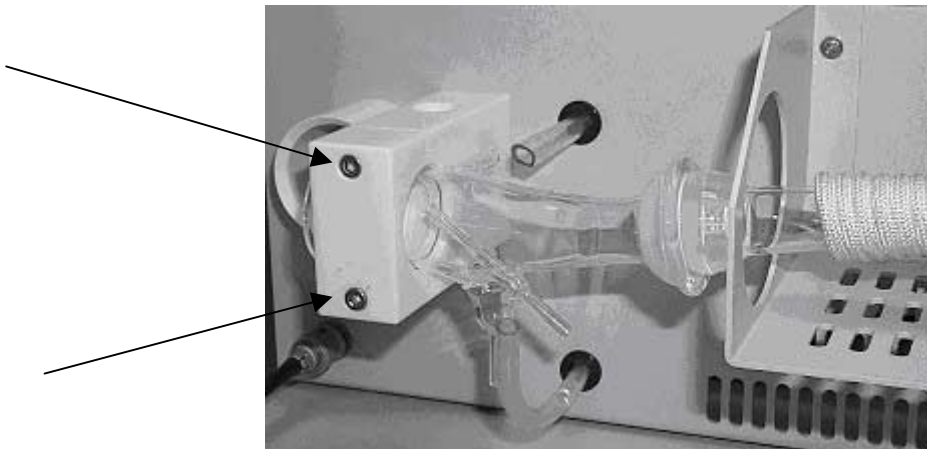

Figure 4
4. Remove the clamp. See Fig.4